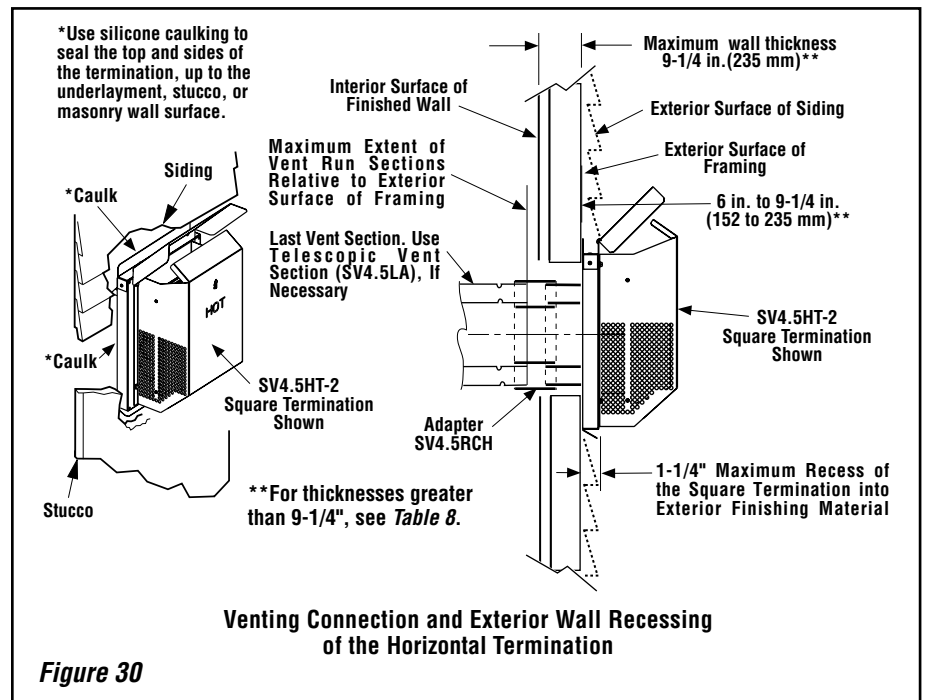

Figure 30
J. Assemble vent run to exterior wall - If not previously measured, locate the center of the vent at the exterior wall. Prepare an opening as described in **Step B**. Assemble the vent system to point where the terminus of the last section is located relative to the exterior surface to which the termination is to be attached as shown in **Figure 30 and Table 8**.
If the terminus of the last section is not within this distance, use the **telescopic vent section SV4.5LA**, as the last vent section. For wall thicknesses greater than that shown in **Figure 30**, refer to **Table 8 on Page 20**. This Table lists the additional venting components needed (in addition to the termination and adaptor) for a particular range of wall thicknesses.
For the last step, from outside the exterior wall, slide the collars of the termination onto the adaptor (the outer inside the outer and the inner outside the inner) until the termination seats against the exterior wall surface to which it will be attached. Orient the housing of the termination with the arrow pointed upwards. Secure the termination to the exterior wall. **The horizontal termination must not be recessed into the exterior wall or siding by more than the 1-1/4" (32 mm) as shown in Figure 30.**
Table 8 *Note: See Figure 30 showing wall thickness range when using SV4.5HT-2 termination kit.*